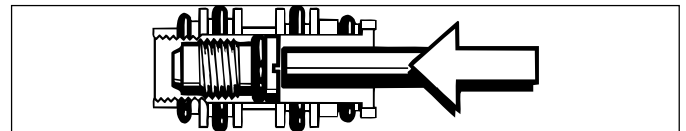

Figure 22
1.3.29 Install the O-ring(3) onto the crown(4), and carefully insert the threaded end of the crown into the larger, unthreaded end of the crown housing. Gently press it in further with the blunt end of the seal/seal extractor (P/N 5116236) until it stops (see Fig. 22.)